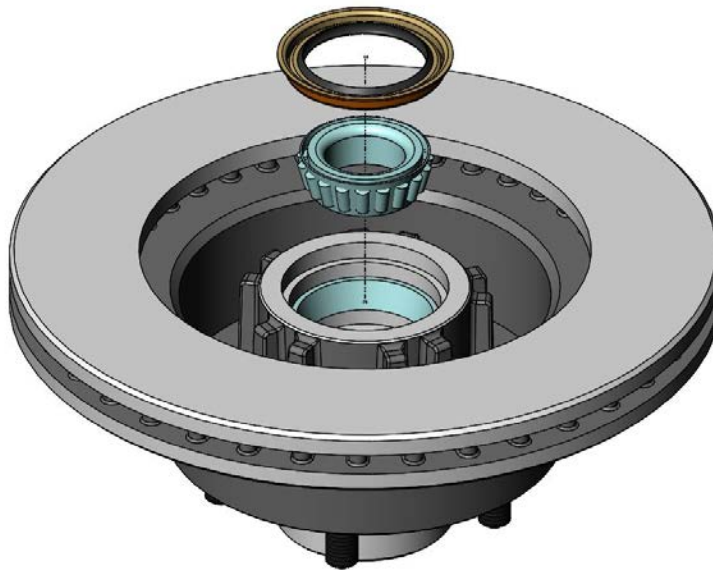

Figure 4 – Inner Wheel Bearing and Grease Seal Installation
8. The wheel bearings can now be packed with a high quality wheel bearing grease available at your local parts store and the bearings can be installed in the rotors at this time. Once the inner bearing is installed, tap the inner seal in at this point. Figure 4 shows the bearing and seal being installed.